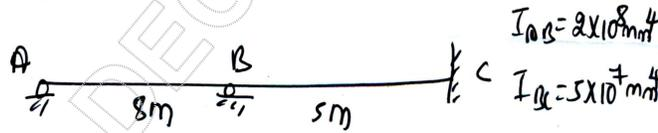

Fig.Q.8
- 8 The top and bottom surfaces of the continuous beam in the Fig.Q.8 are heated at  $20^\circ\text{C}$  and  $10^\circ\text{C}$  respectively. Determine the final moment using element stiffness method.  $E = 2 \times 10^5\text{N/mm}^2$  and  $\alpha = 1.2 \times 10^{-5}/^\circ\text{C}$ . The depth of the member AB and BC are 400mm and 200mm respectively. (20 Marks)